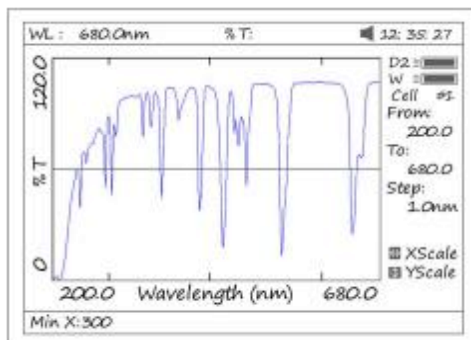
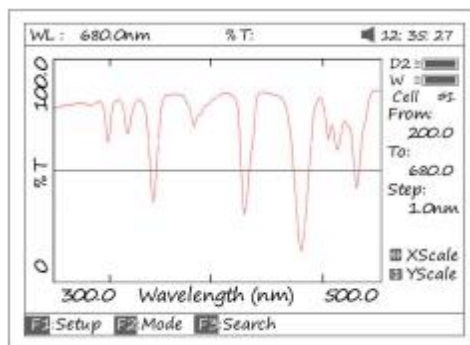

Fig47
Fig 48
5. If you want to change the scale, press **【<】** or **【>】** to change “x” scale (Fig 47), input upper limit and lower limit by pressing the numeric keypad. To change “y” scale press **【^】** or **【v】**. After these inputs the instrument will redraw the curve (Fig 48).
Press **【SAVE】** to save the curve. Note: Load/Save requires the first scan display page (Fig. 48). Press **ESC** if in Search to return to the required page